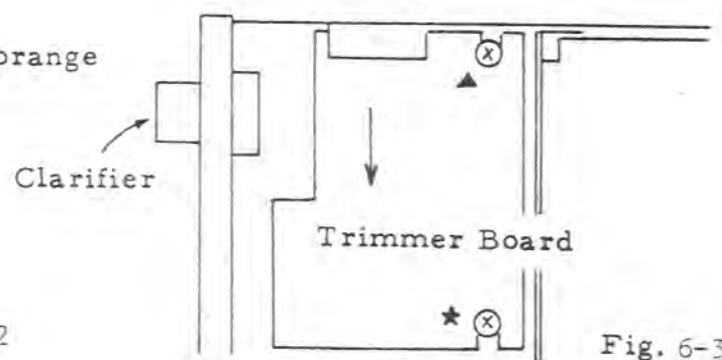

Fig. 6-3
9. Remove screw marked * and loosen screw marked ▲ in Fig.6-3. Slide trimmer board toward arrow direction and lift. Locate the clarifier potentiometer and disconnect all soldering from the potentiometer with soldering iron. Remove knob and remove the potentiometer.